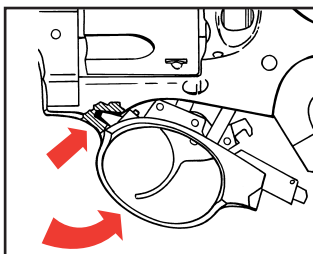
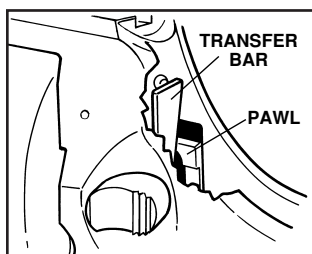

Figure 7
Figure 9
6. Use mainspring assembly to depress trigger guard lock plunger located inside frame at rear of trigger guard. Simultaneously pull down and remove trigger guard assembly (See Figure 7 & 8).
2. Hook front of trigger guard into recess in frame (See Figure 7). Align pawl in its recess in the frame and be sure transfer bar is in correct position in frame then allow latch to re-engage. If solid resistance is felt when swinging trigger guard into frame, or if trigger guard will not lock into position re-check position of pawl and transfer bar (See Figure 9).